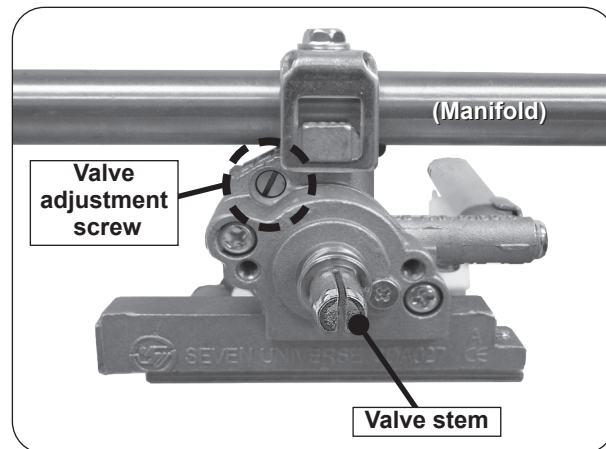

Fig. 41-1 Valve adjustment screw location
5. Locate the FLATHEAD adjustment screw found above the valve stem and below the manifold (see Fig. 41-1).